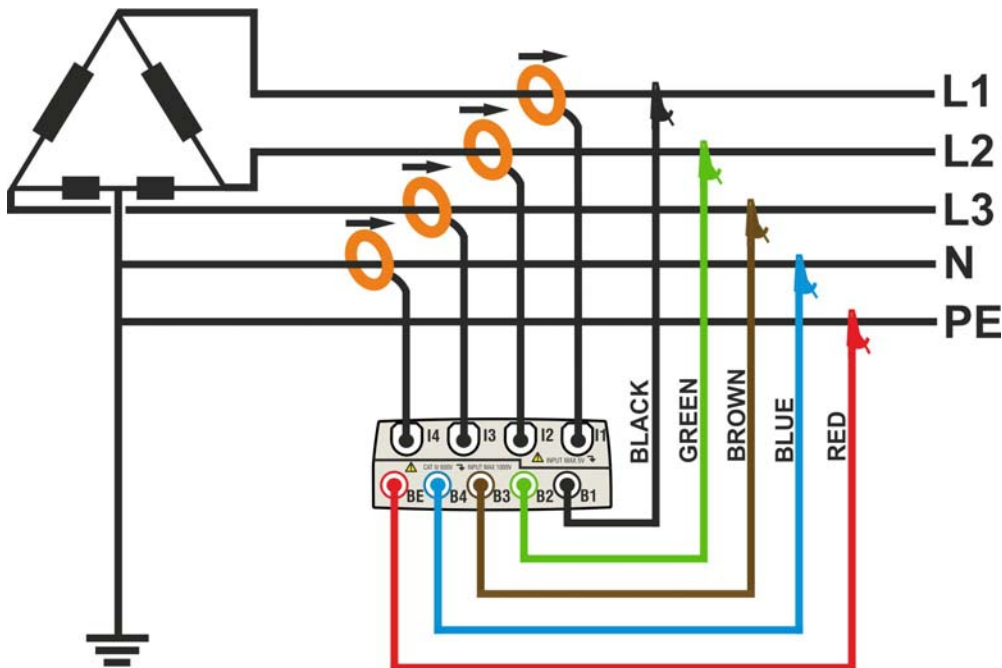

Fig. 169: Meter connection in a three phase 3PHL system
2. Connect voltage test leads on Phases L1, L2, L3, N and PE cables considering the colours as shown in Fig. 169. **Verify the result “123” at display relative to a correct phase sequence indication** (see § 5.2.4.1) and perform the corrections if necessary.
3. Connect the transducer current clamps on Phase L1, L2, L3 and N cables as shown in Fig. 169 respecting the clamp's arrow direction indicating the current standard sequence from generator to load. **On Real Time Values' section screens (selecting a 3 wire system preliminarily) always verify the positive value of Active Power and the power factor relative to load which should be normally inductive** before starting a recording. Reverse the clamp by 180 degrees on cables in case of negative readings.